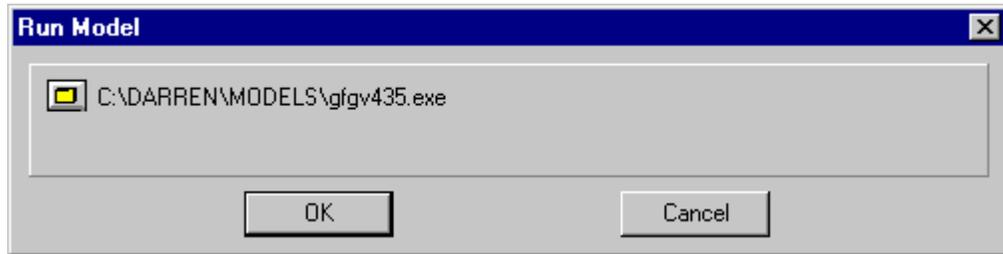

Figure 5.16 Run GFGEN dialog.
1. Select *RMA2 / Run GFGEN*. A dialog appears showing the engine that will execute as shown in Figure 5.16.